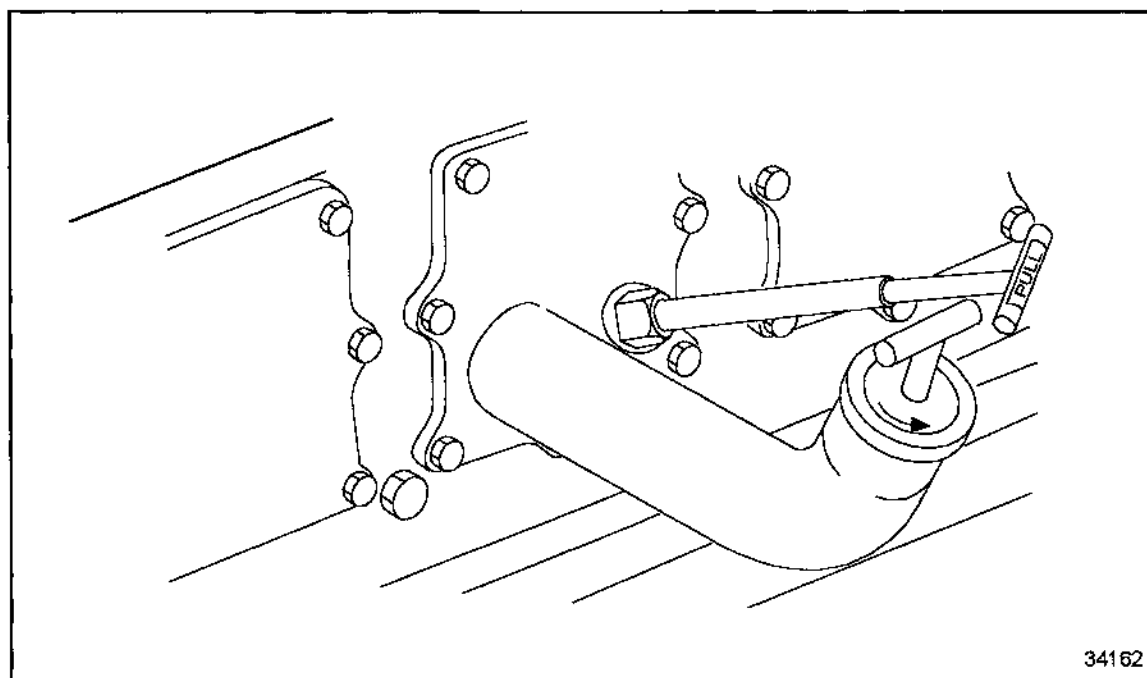

Figure 16 Remove Oil Filler Tube Cover
1. Turn the oil filler tube cover counterclockwise until it can be removed. See Figure 16.